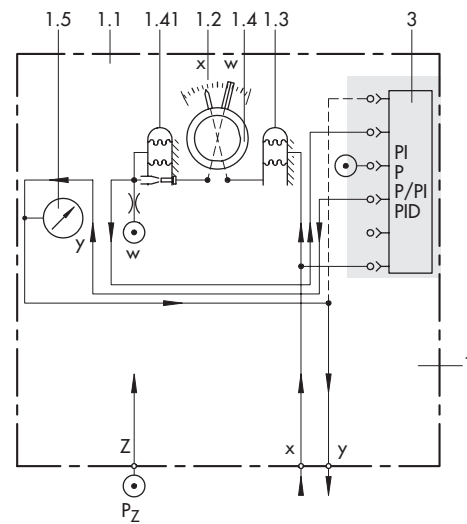
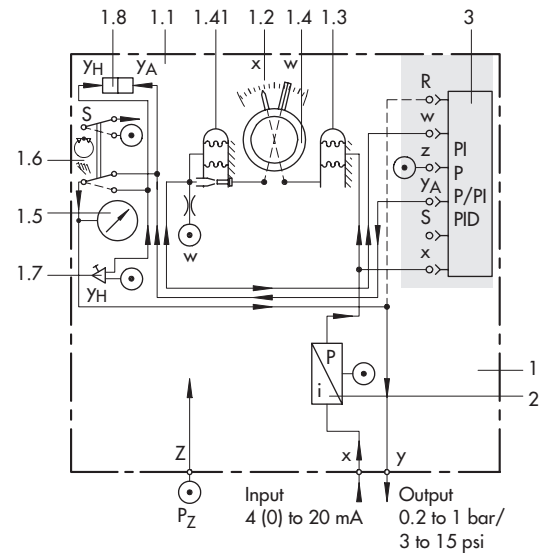

Fig. 4 · Fixed set point controller for pneumatic standardized signals, version with Type 3431-01, functional diagram
Fig. 7 · Fixed set point controller for electric standardized signals, version with Type 3431-02 Controller Station
### Principle of operation (see Figs. 4 to 7)
The controller station (fixed set point controller with pneumatic input) shown in Fig. 4 consists of scale (1.2), controlled variable display (1.3), set point adjuster (1.4), and plug-in connections for a controller module (3). These pneumatic connections are self-sealing when the module is unplugged. The controlled variable signal  $x$  produces a deflection on the bellows measuring system of the controlled variable display (1.3) which is transmitted to the pointer over a gear mechanism. The set point (reference variable  $w$ ) can be adjusted on a scale (1.2) at the controller front. The position of the set point adjuster is transmitted to the set point transmitter (1.4) over a gear mechanism. This servo system (1.41) converts the adjusted set point into a pneumatic set point signal ( $w$ ), which is fed to the controller module. The controller module compares the controlled variable signal and the set point signal ( $x$  and  $w$ ) and produces an output signal  $y_A$  depending on the system deviation and the adjusted control parameters. The output signal is connected to the output signal display (1.5) and output  $y$ .
The controller station shown in Fig. 5 largely corresponds to the version shown in Fig. 4. However, the station additionally contains a manual/automatic switch (1.6), a manual adjuster (1.7), and a differential pressure display (1.8). When the switch is in position AUTOMATIC, the output signal display (1.5) and output  $y$  are connected with the automatic output signal  $y_A$ . When the switch is in position MANUAL, the output signal display and output  $y$  are connected to the manual output signal  $y_H$  set at the adjuster. Smooth changeover from manual to automatic operation is possible when the differential pressure display indicates that  $y_A$  and  $y_H$  are identical. The follower controllers are not equipped with a set point adjuster (1.4); they come with a set point display. The version shown here includes a pneumatic input for the external reference variable  $w_{ext}$ .
The versions with i/p converter (Fig. 7) are designed for connection of 4 to 20 mA or 0 to 20 mA electric input signals (controlled variable  $x$ ). The standardized input signal of a transmitter is fed to the i/p converter (2) and converted into a pneumatic standardized signal from 0.2 to 1 bar. The controller stations largely correspond to the versions shown in Figs. 4, 5, and 6. However, the stations additionally contain an i/p converter (2) whose output signal is applied to the bellows measuring system of the controlled variable display (1.3) and the controller module (3). Follower controller with electric input  $w_{ext} = 4$  to 20 mA or 0 to 20 mA are equipped with an additional i/p converter. The controller stations can be equipped with various controller modules, e.g. with Type 3434 for common P or PI control, with Type 3433 for P, PI, PID and PD control as well as with additional modules for special control tasks. For details on the controller modules refer to Data Sheets T 7040 EN and T 7041 EN. The controller stations can optionally be equipped with 1 or 2 adjustable inductive limit switches.